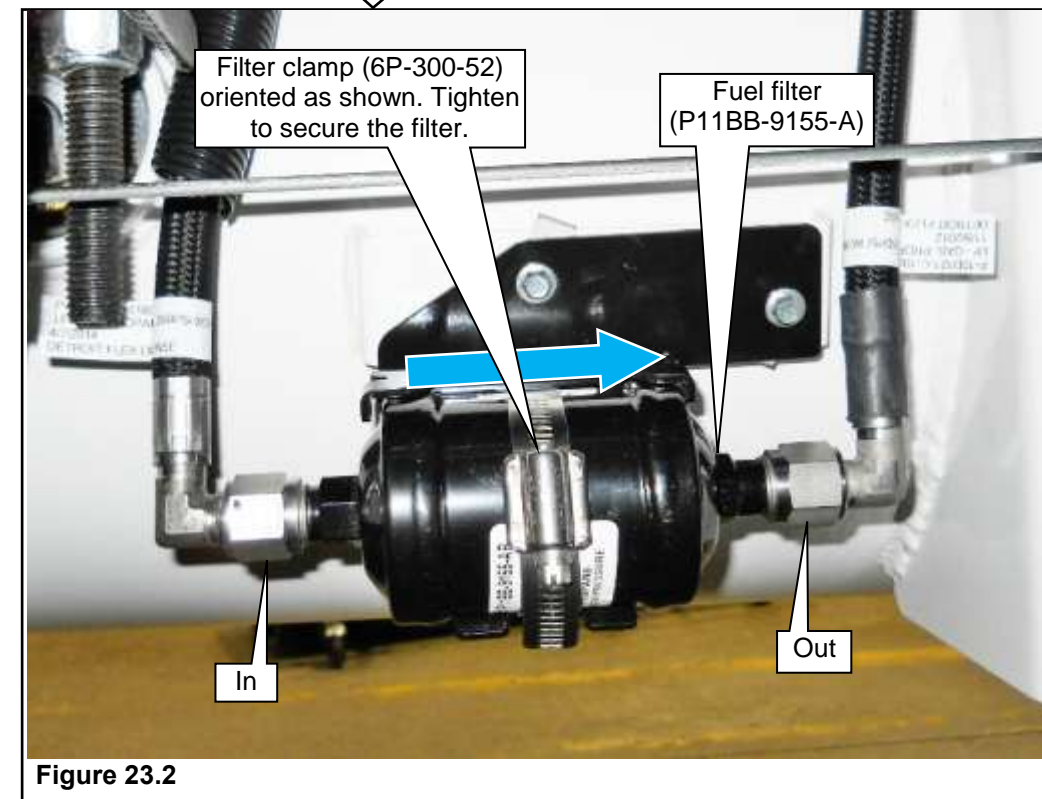

Figure 23.2
8. Slide the filter over the bracket and through the clamp until the filter is correctly engaged with the bracket. The filter must be oriented so that the arrows are facing the direction of fuel flow; in from the fill valve and out to the tank. Tighten the clamp to secure the filter to the bracket. **Figure 23.2.**